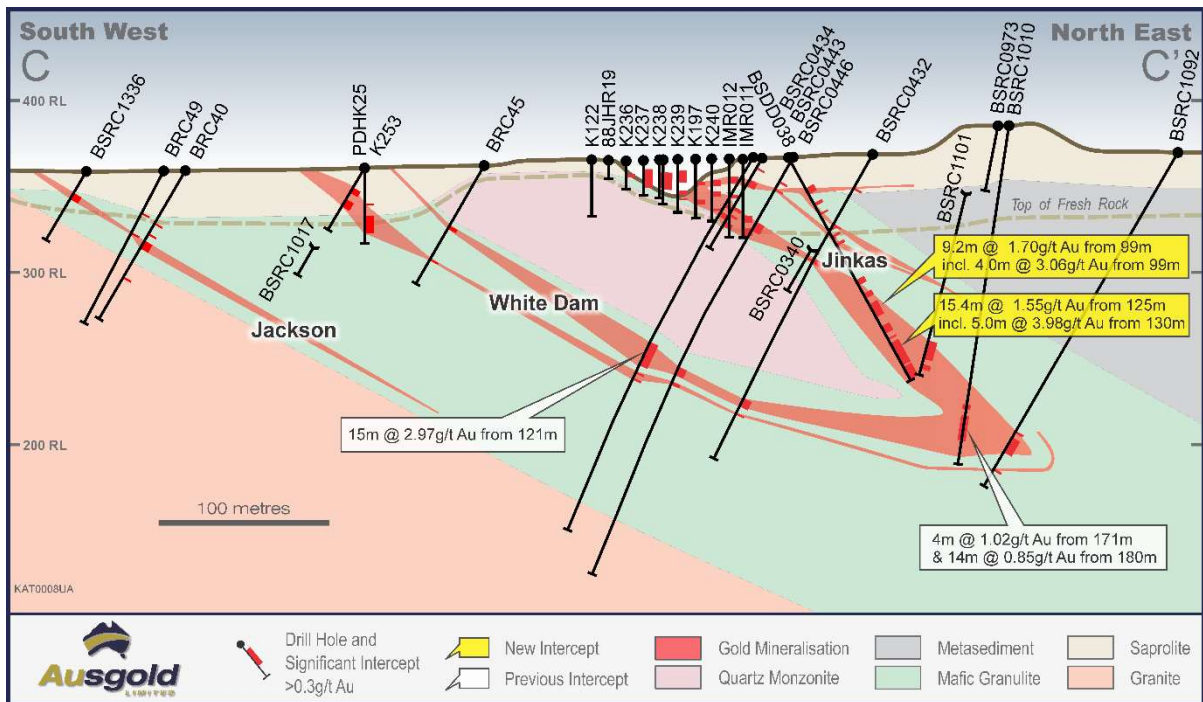

Figure 5 – Cross-section C-C' Jinkas Lode
New drilling (11 holes 1,068 metres) within the Jinkas lode targeting the down plunge extensions of the high-grade gold mineralisation has intercepted broad zones of gold mineralisation. Further RC drilling and downhole electromagnetic (EM) surveys are planned to further extend this mineralisation (Figures 5 & 8). Significant results include: